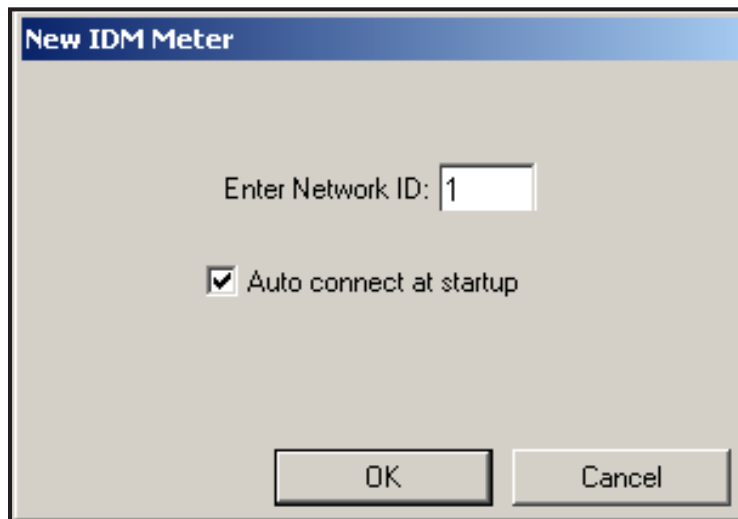

Figure 37: New IDM Meter Screen
4. The *New IDM Meter* screen (shown in Figure 37) opens. Enter the Network ID number for the meter, and click [OK].